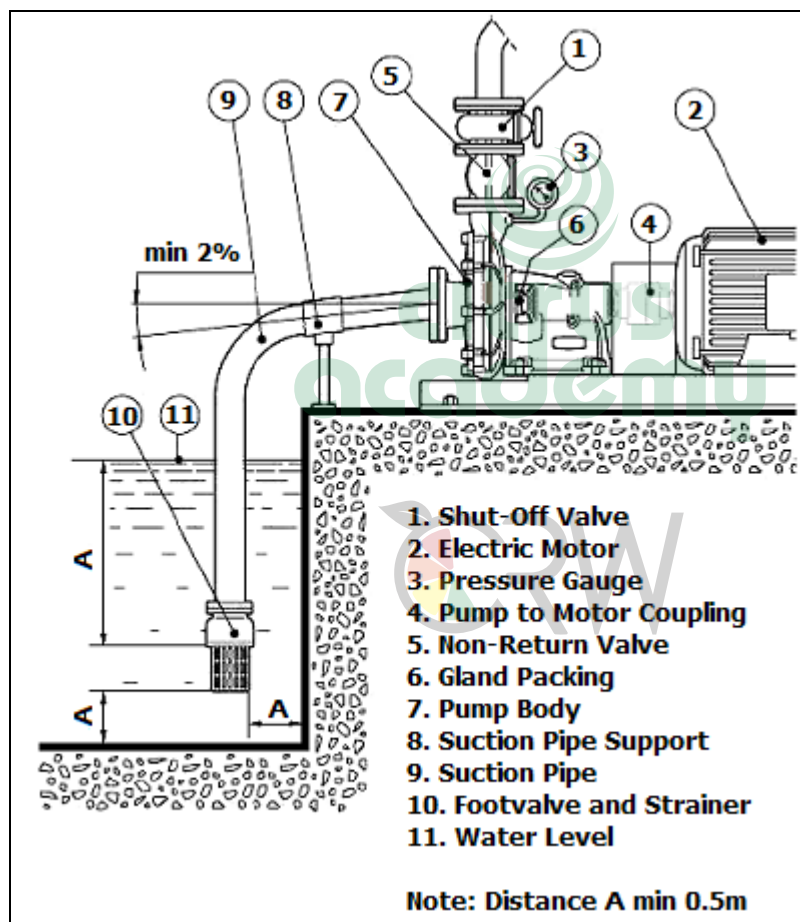

Figure 1.3: Basic Components of a Pump System
Pumps consist of various components, including the motor that drives the pump, the suction and delivery pipes, and various valves. Figure 1.3 shows the various components of a standard pump.
4. Inspect the gland packing around the pump shaft. The gland packing is the seal at the pump shaft and seals off the water inside the pump. It is marked as item 6 in figure 1.3.